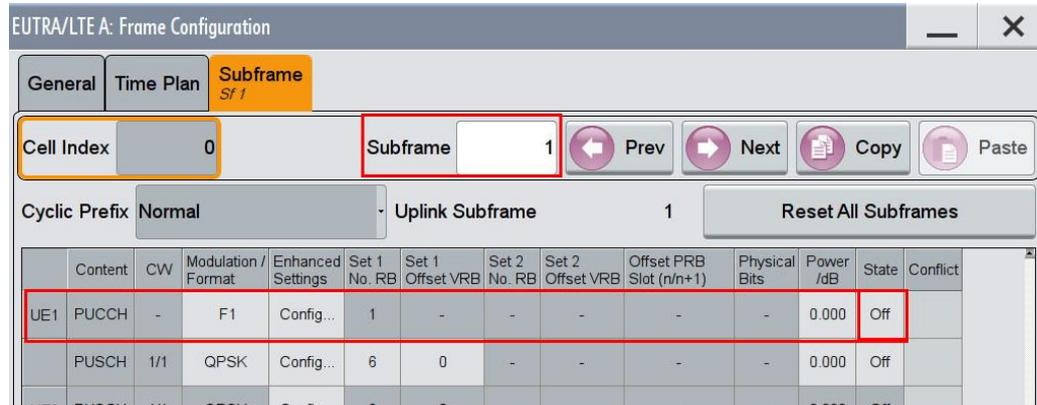

Fig. 3-170: In the second configurable subframe (subframe #1) the PUCCH is not transmitted (state Off)
13. Make sure that the PUCCH in the second configurable subframe is not transmitted (example: subframe 1 **State Off**) (Fig. 3-170).